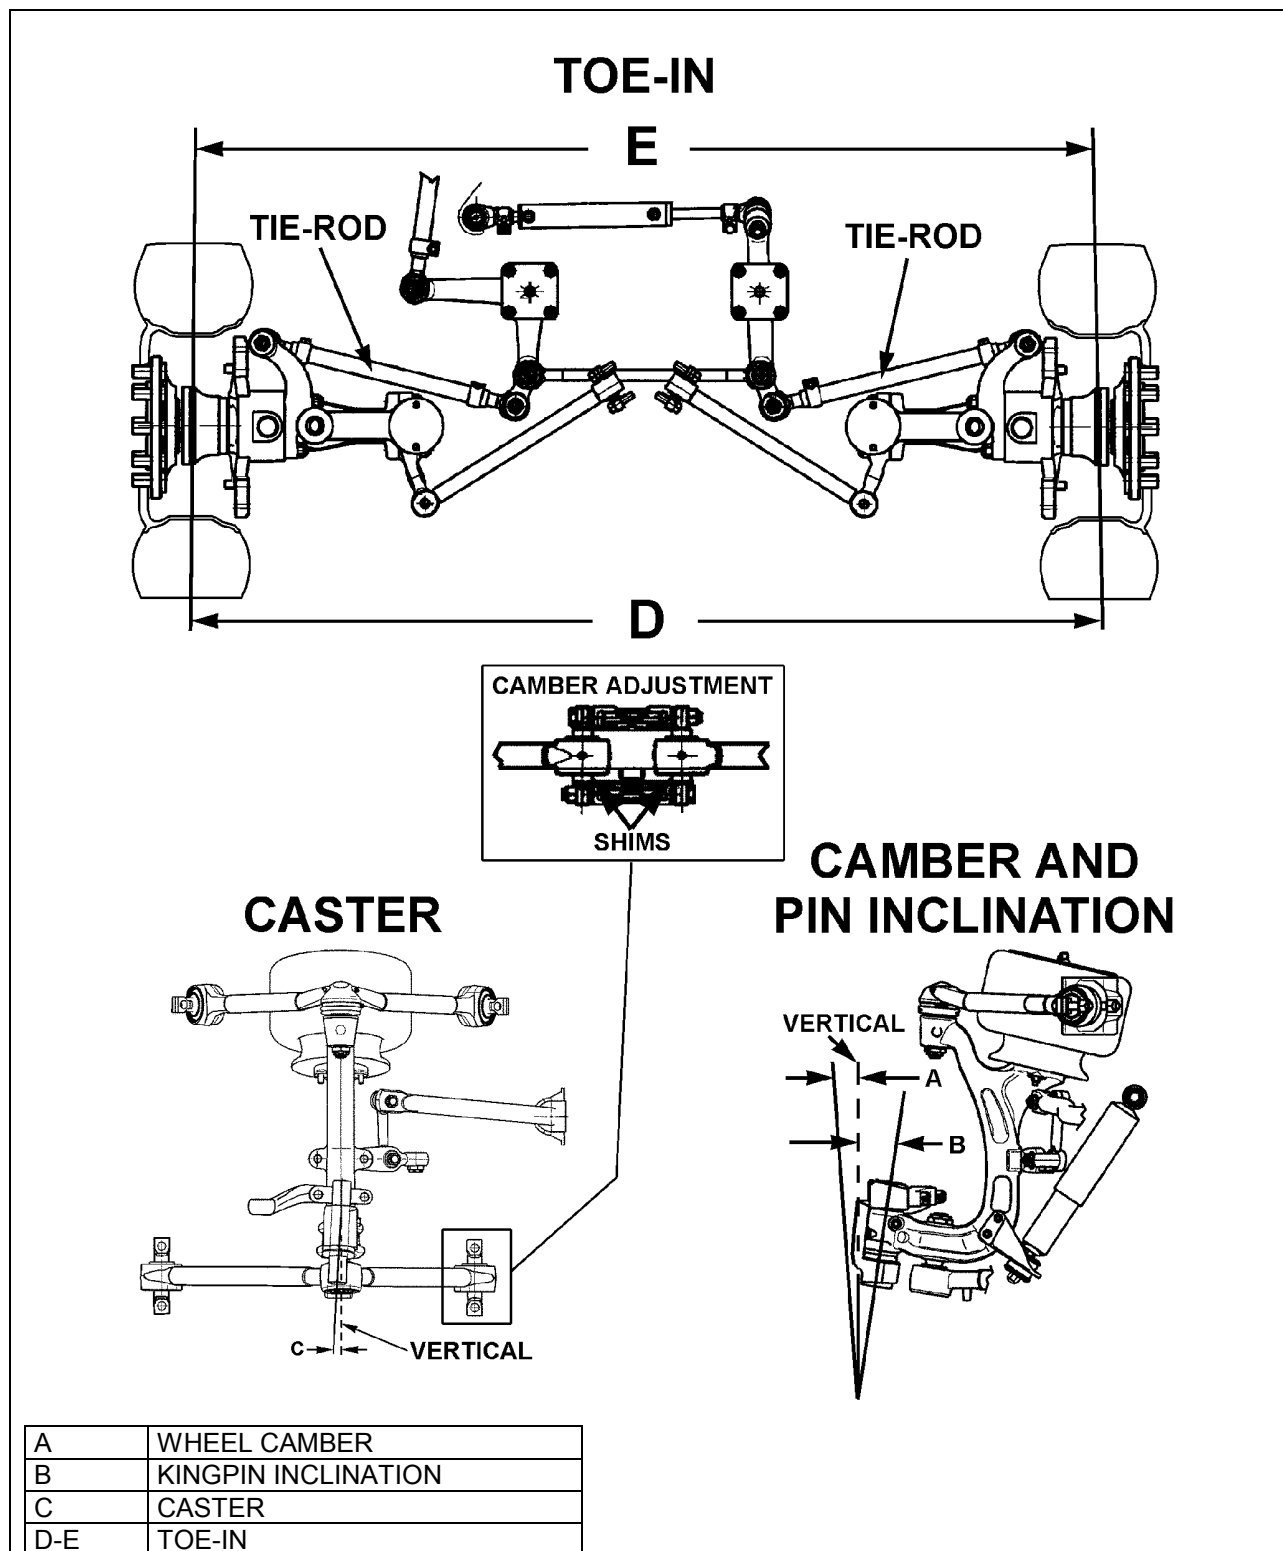

FIGURE 27: FRONT END ALIGNMENT DIAGRAM
**Wheel Camber:** Camber is the number of degrees the top of the wheel is tilted inward or outward from a true vertical (fig. 27).
Wheel Toe-In: a slight forward convergence given to the wheels of motor vehicles to improve steering and equalize tire wear (D minus E, fig. 27).
Kingpin Inclination: The inclination of the kingpin from vertical toward the center of the vehicle at the top and outward at the bottom (B, fig. 27).
Front Axle Caster: The inclination of the kingpin from vertical in the fore and aft direction (C, fig. 27).